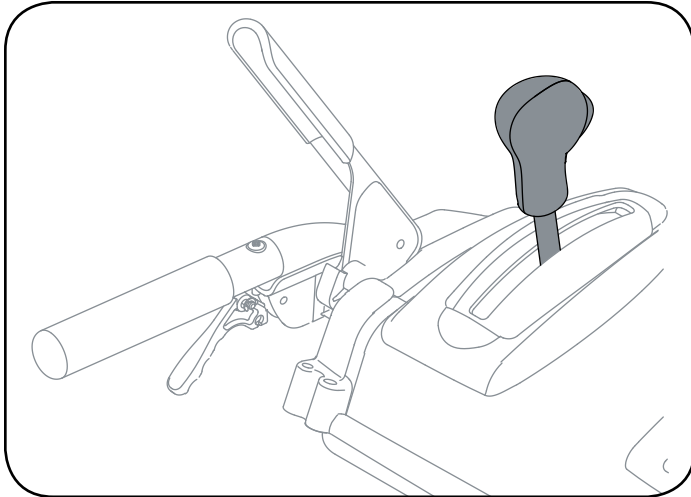

Figure 4
4. Place the 4-way chute control in a centered position. See Figure 4.